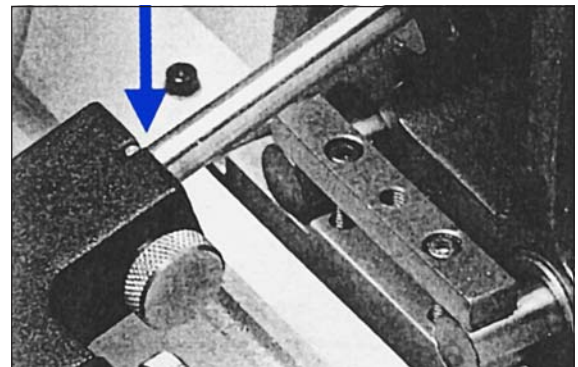

Abb. 11.2
6. Slide the knife holder onto the shaft until the „slot” in the holder completely engages the pin and is seated firmly against it. Tighten locking screw securely (**Figure 11.2**).